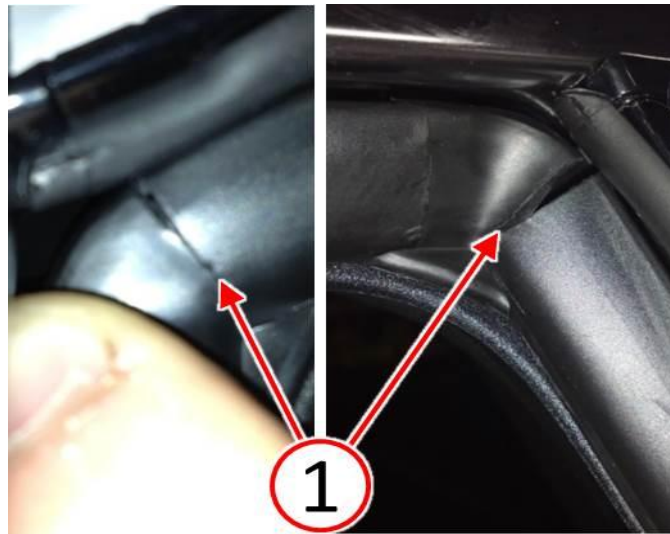

Fig. 1 Door Glass Run Seal Seam Separation
Glass run seal may separate at bonded corners due to insufficient seal bond strength as shown in (Fig. 1).
1. If seam separation is visible at the bonded corner as shown in Symptom/Condition (Fig. 1), the window run seal will need to be replaced.
- **(WD) ONLY - LEFT FRONT DOOR - GLASS RUN SEAL REPLACEMENT PROCEDURE:** Proceed to Step #1.
- **(WK) ONLY - LEFT REAR DOOR - GLASS RUN SEAL REPLACEMENT PROCEDURE:** Proceed to Step #1.
**(WD) ONLY - LEFT FRONT DOOR - GLASS RUN SEAL REPLACEMENT